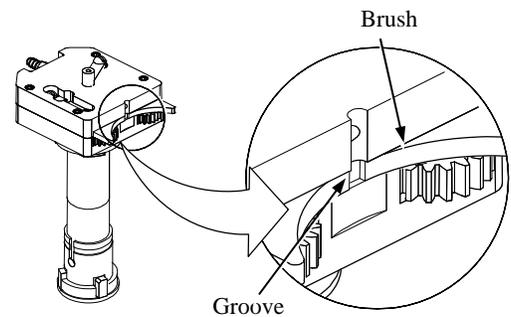

Figure 30 Inspecting the Brush
9. Examine the brush. See Figure 30.